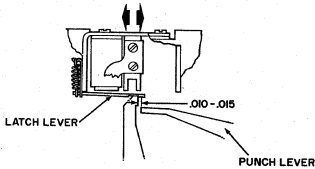

Figure 6A
3. Adjust the magnet assembly, front to rear on the casting, to give .010" to .025" clearance between the front edge of the latches and the rear end of the punch levers with the latch levers engaged with their armatures (Figure 6A).